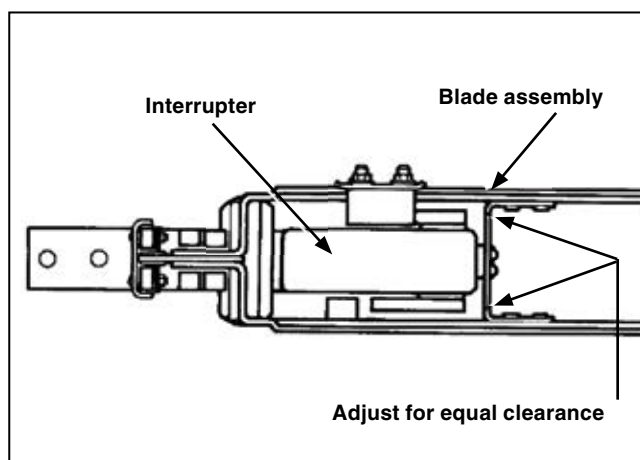

Figure 37. The blade assembly in the fully Closed position.
- (d) The interrupter must lie in a plane parallel to the sweep of the blades, and the blades must pass over the interrupter with approximately equal clearance on both sides. See Figure 37.